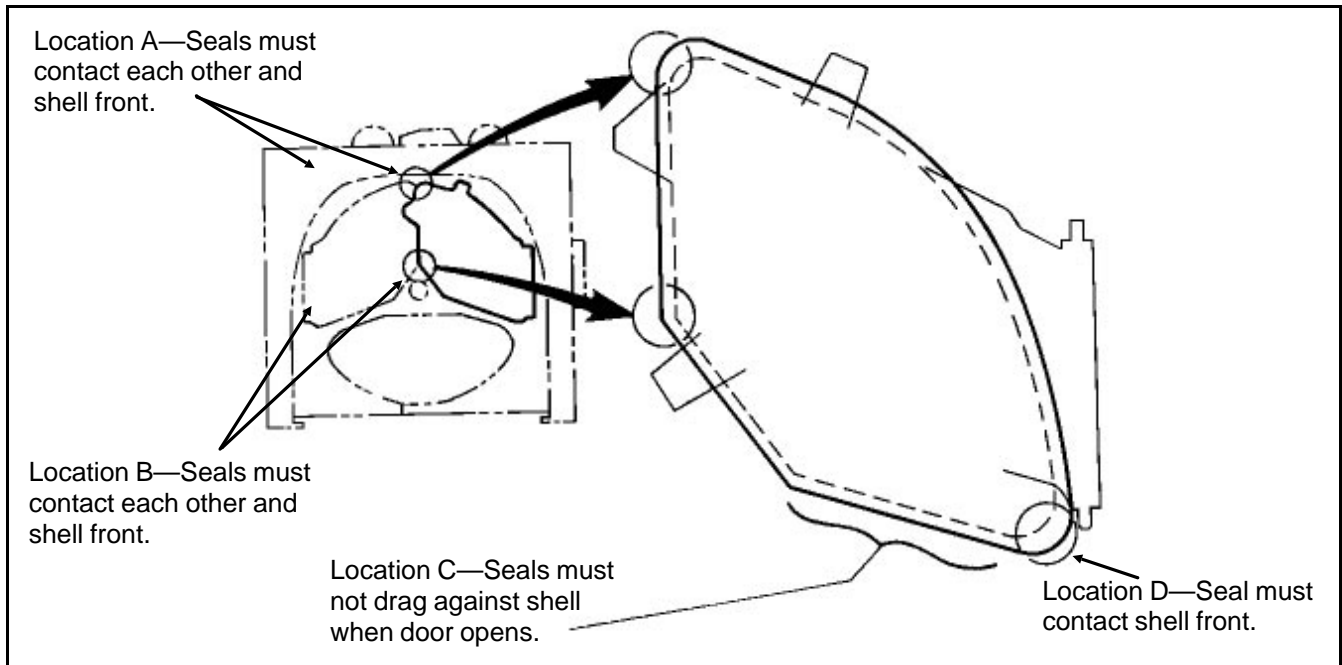

FIGURE 1 (MSSMA413AE)
6. If the seal does not contact the shell at locations A or D (see FIGURE 1), open the doors and stretch the seal toward these points.
8. If seals do not contact each other at locations A and B, (see FIGURE 1), then at these points, glue tapered patches (part number 02 175134), as required, to the outside of seal (using adhesive 20C080C) to add thickness.